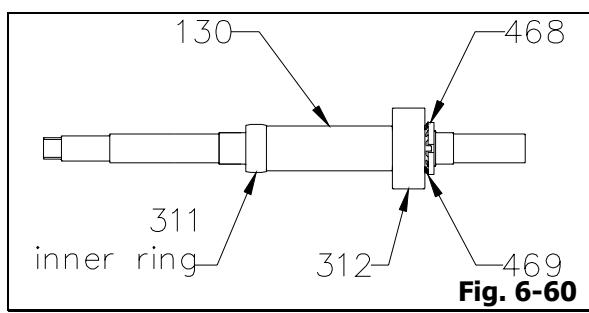

Fig. 6-60
- Install pump end bearing (311) inner ring, drive end bearing (312), bearing washer (469) and bearing nut (468) onto shaft (130) (Fig. 6-60).